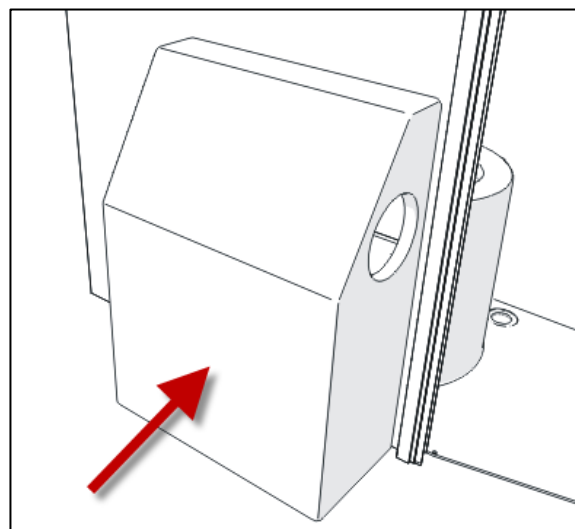

FIGURE 29
45. Reinstall the garbage and the garbage protector (Figure 29).